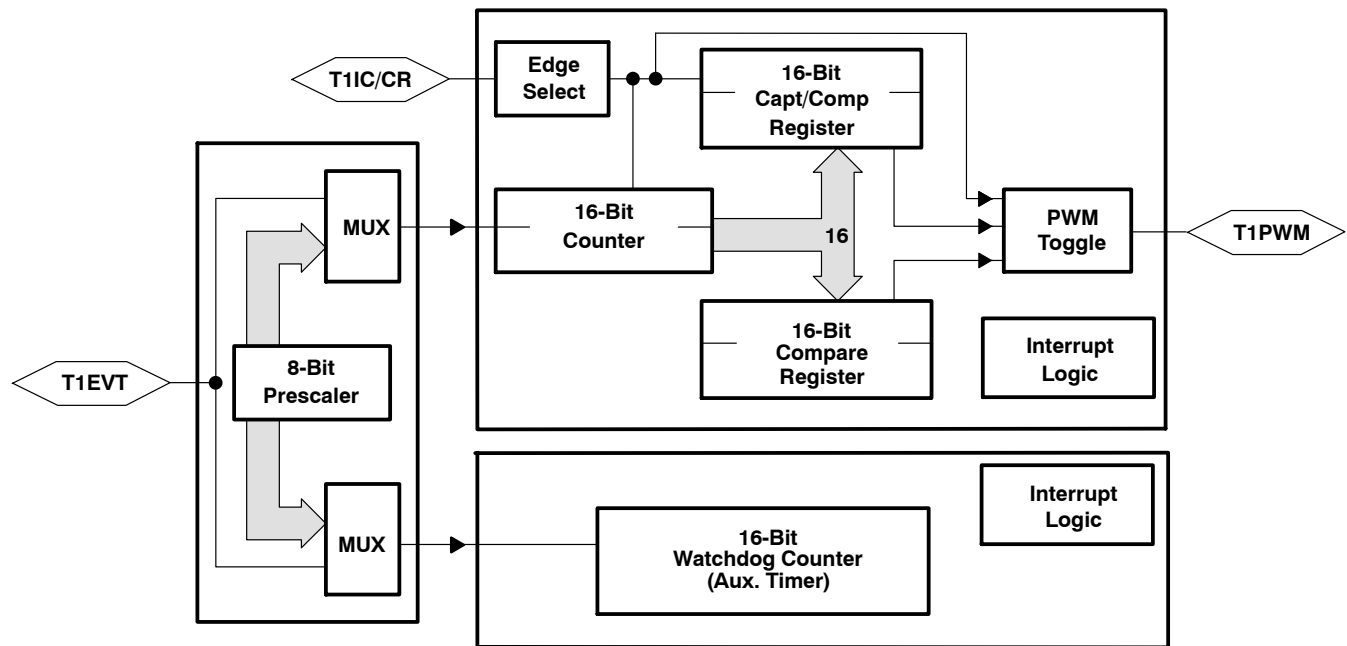

Figure 6. Timer 1 Block Diagram
The programmable Timer 1 (T1) module of the TMS370Cx4x provides the designer with the enhanced timer resources required to perform real-time system control. The T1 module contains the general-purpose timer and the watchdog (WD) timer. The two independent 16-bit timers, T1 and WD, allow program selection of input clock sources (real-time, external event, or pulse accumulate) with multiple 16-bit registers (input capture and compare) for special timer function control. The T1 module includes three external device pins that can be used for multiple counter functions (operation-mode dependent), or used as general-purpose I/O pins. The T1 module block diagram is shown in Figure 6.